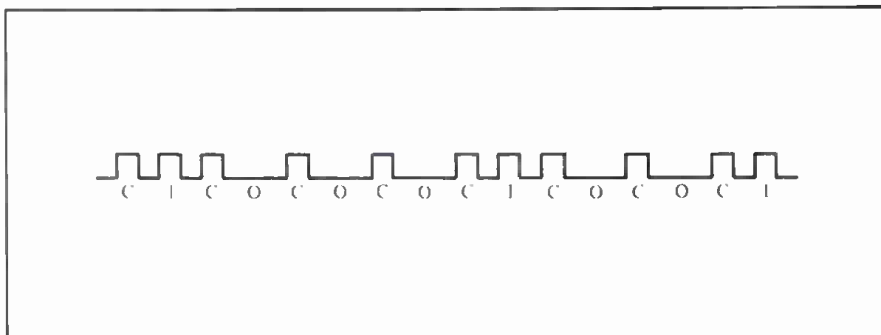

Figure 2. Part of a bit stream, representing 10001001.
"Control yourself. This is what the computer interprets, but the actual recording is something quite different. Can I continue? Each data bit has its own clock bit. Thus we refer to this type of recording as a frequency modulation (FM) recording. Data is written and read from the disk in serial form, and eight consecutive bit cells comprise a byte. The first cell is numbered 0, and the last is numbered 7. Therefore, when reading or writing, the most significant bit is transferred first. Look, here's a part of a bit stream, representing 10001001." (See FIGURE 2.)